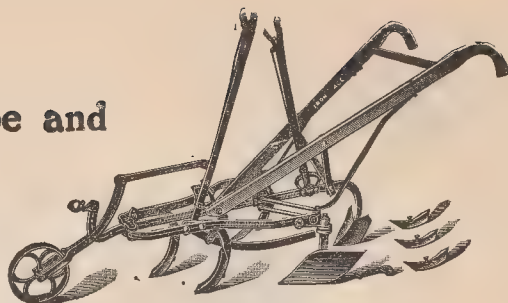

Fig. 188
**The Depth Regulator Attachment** is applied as shown in Fig. 188, and by adjusting the front lever the depth of running of the Cultivator may be quickly changed. It will be noticed the wheel and the Depth Regulator work in unison, although the comparative depth of either may be quickly changed. By throwing the Depth Regulator down to its extreme depth, the Cultivator may be completely raised from the ground and easily carried to and from the field. **Price, attachment only.**